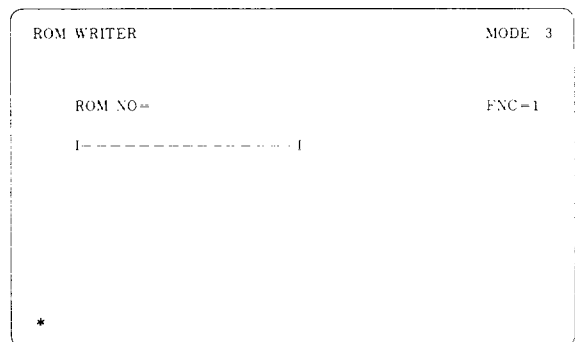

Fig. 9.28
- vi. Depress the **[1]** and **[WR]** keys on the editing panel. (See Fig. 9.28)